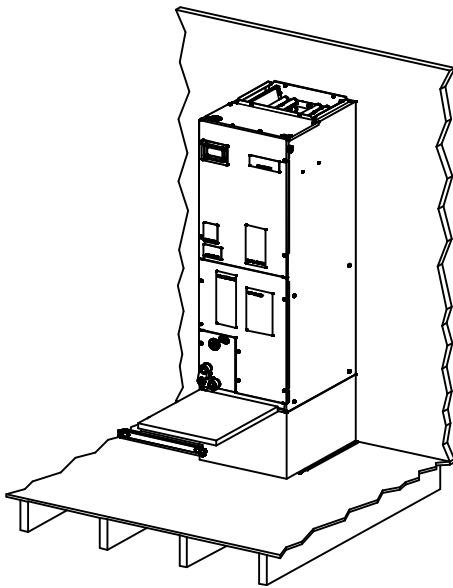

Fig. 2 – Unit with Filter
3. Set the unit onto the Upflow Stand. See Figure 2.